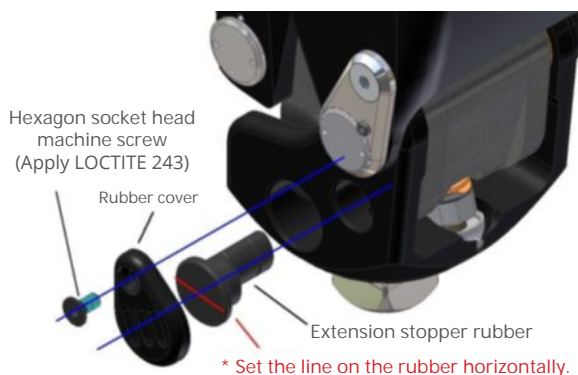

Fig. 19 - Replacing the Extension Stopper Rubber
3. Insert the new extension stopper rubber in the direction shown in Fig. 19. It can be inserted easily if the knee joint is in the stance-flexion state.